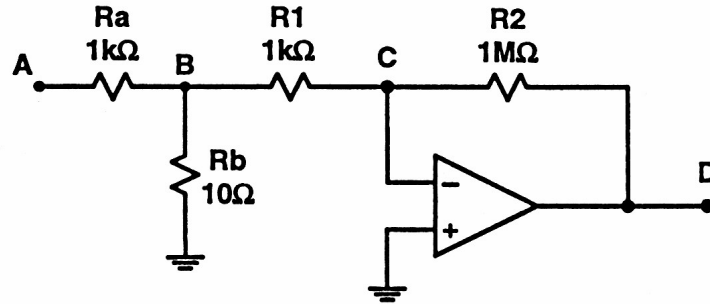

Figure 4: High-Gain Inverting Amplifier for Frequency Measurement.
- **Setup:** Assemble the circuit in Figure 4 using ± 10 V supplies. The function generator frequency should be 100 Hz, initially.